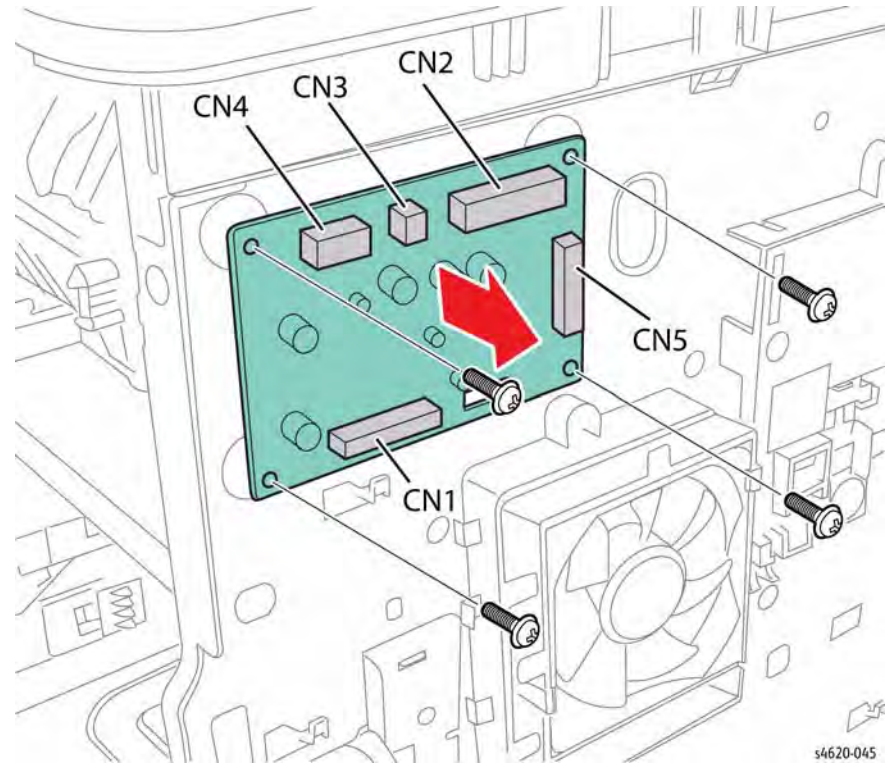

Figure 3 Remove the Joint Board screws
12. Remove 4 screws (metal) that secure the Joint Board to the chassis, Figure 3.